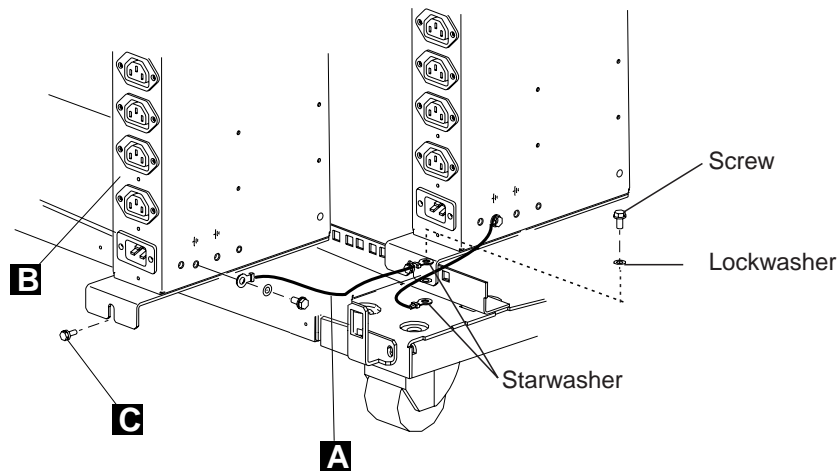

Figure 1-10. Installing the Captive Nuts
11. ____ Refer to Figure 1-10, using one lockwasher (PN 1622319), one starwasher (PN 1622347), and one screw (PN1673983), **connect** the ground jumper **A** (PN 63F2459) to the new ac outlet distribution box.